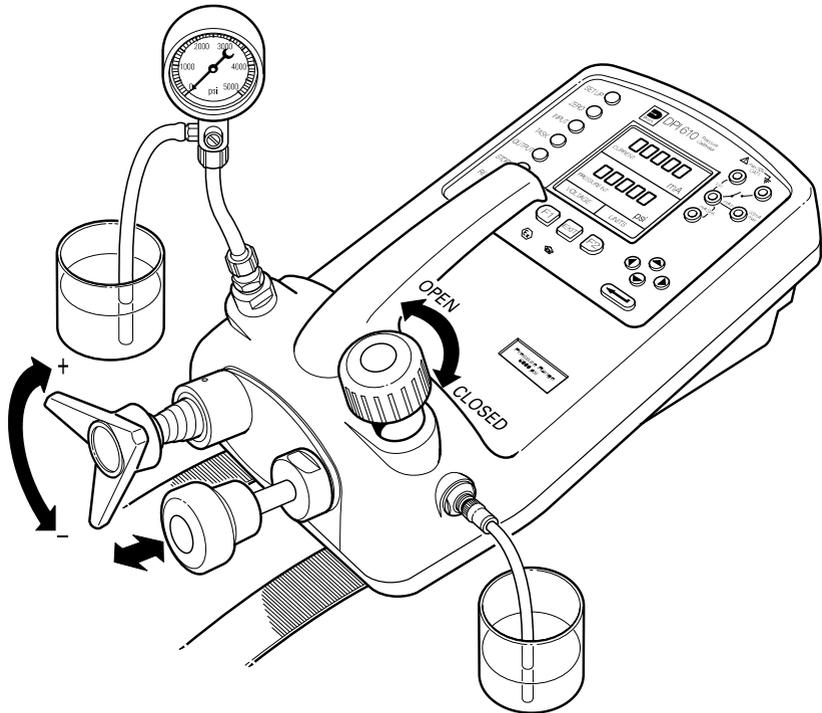

Figure A2 - Priming/Test Set-up
- Connect the device or system under test to the pressure port using a bonded seal as shown in Figure A2.